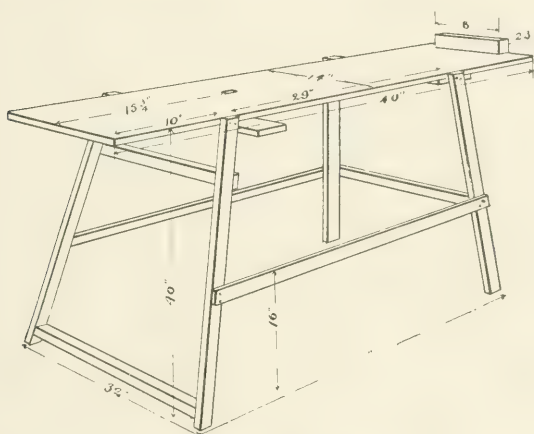

Fig. 46—The scroll-saw table
*The Scroll Saw.*—A table, supported on suitable legs, shown in Fig. 46, is made first. To this the bicycle is securely fastened at the front and rear ends. The rear hub is secured on one side to